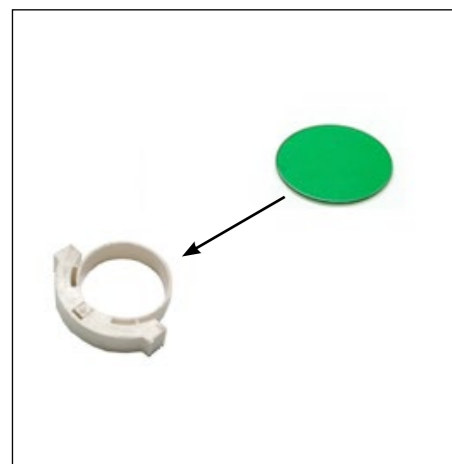

FIGURE 24
4.4.1 Using colour filters (Fig. 24)